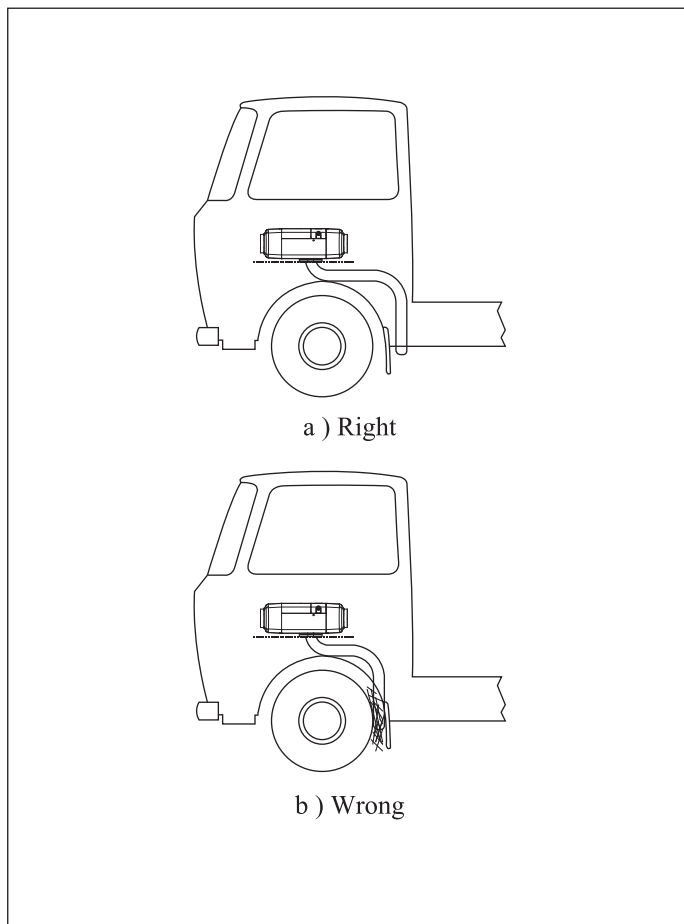

Fig. 28
4.6.5 - Arrangement of the pipes shall protect the pipe openings from blocking by slurry, snow or other dirt. (Fig. 28)